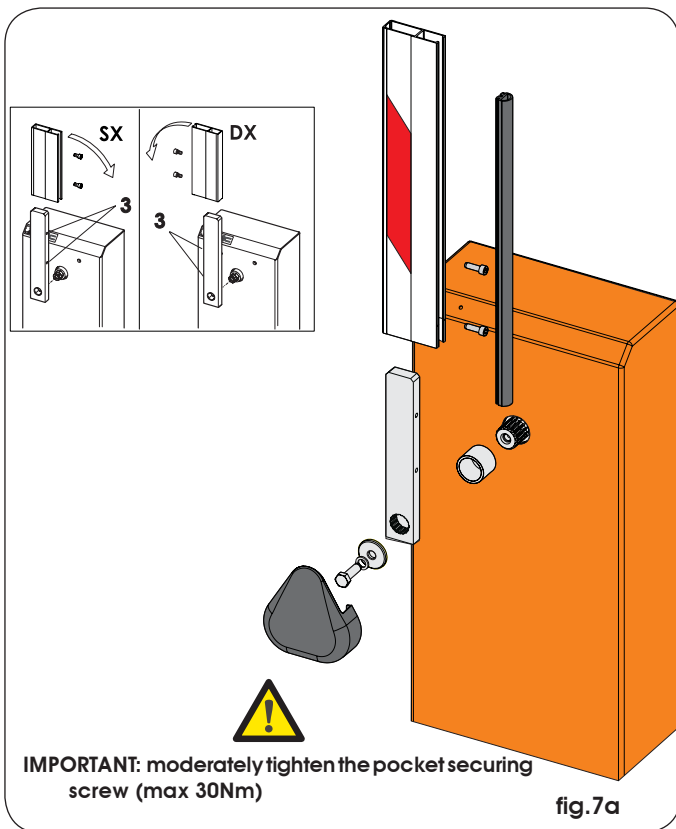
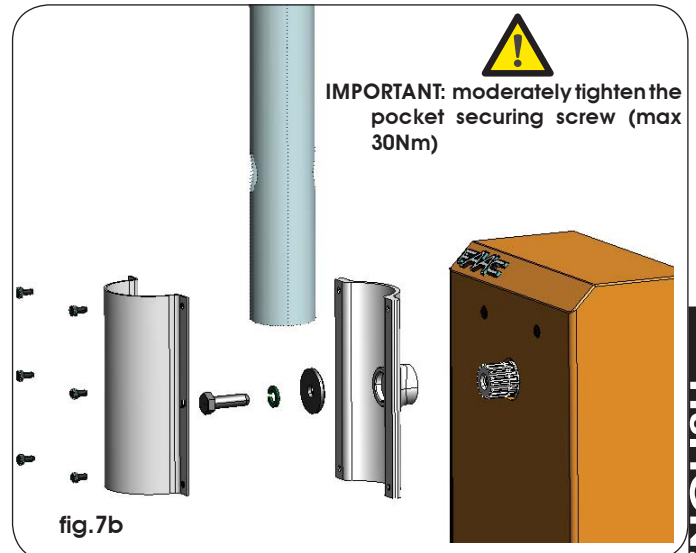

fig.7a
fig.7b
- 3) Assemble the bar as in fig.7a for the rectangular version, or as in fig.7b for the round version.